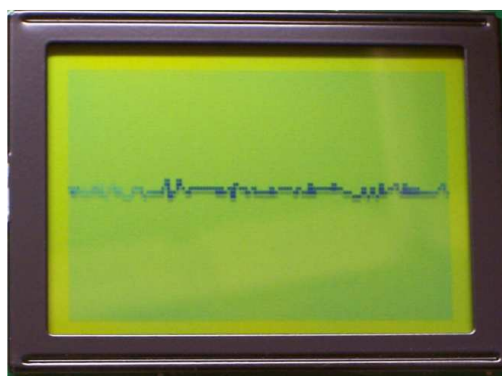

Figure 8. EEG signal while VIEWING
3. The BAERCOM will now start to plot the EEG signal it is receiving from the animal through the electrodes and Input Assembly. At this point there is no audio stimulus, and the "raw" EEG signal display should resemble Figure 8: a nearly flat line in the center of the display with some noise visible. If the EEG plot looks extremely noisy (large peaks), or has an erratic baseline, recheck all electrodes and connections between the BAERCOM and the animal.